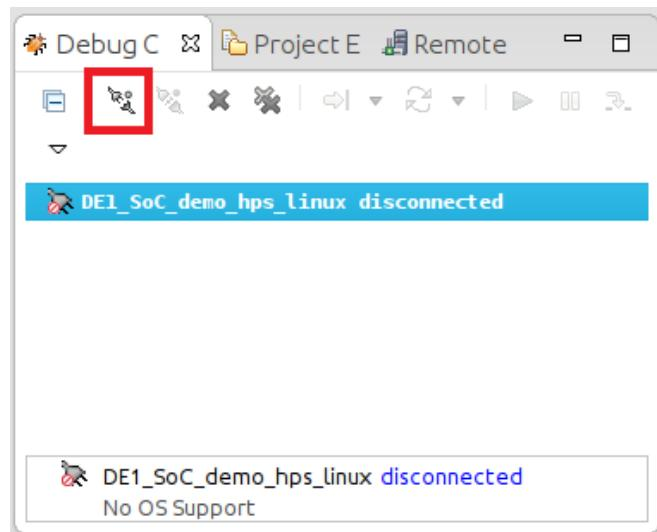

Figure 13-34. Debug Control View
82. In the “Debug Control” view, click on the “DE0_Nano_SoC_demo_hps_linux” entry, then click on the “Connect to Target” button, as shown on Figure 13-34. The debugger will start an SSH connection to the linux distribution running on the DE0-Nano-SoC and will automatically transfer our binary file and wait at our application's “main()” function. If you are prompted to log in, then log in with the **ROOT** user and password.